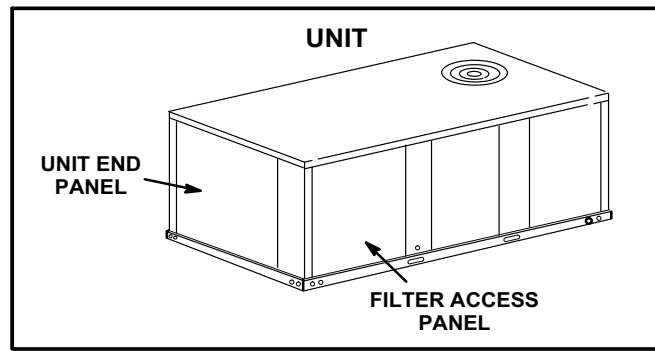

FIGURE 1
- 2- Open unit end panel. See figure 1.